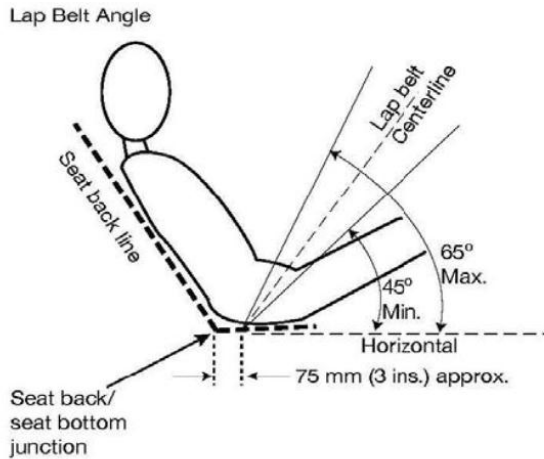

Figure 9
**B10.3.1** The lap belt must pass around the driver's pelvic area below the Anterior Superior Iliac Spines (the hip bones – Fig.9). The lap belt must not be worn over the driver's intestines or abdomen. In side view, the lap belt must be at an angle of between 45 degrees and 65 degrees to the horizontal (Fig.9). This means that the centerline of the lap belt at the seat bottom should be approximately 76 mm (3 in.) forward of the bottom of the seat back. The lap belt halves must run directly from the driver's hips to their mounting points without redirection by any part of the vehicle or its equipment (including the seat). The lap belt halves must be mounted to frame tabs using the bracket supplied with the safety harness